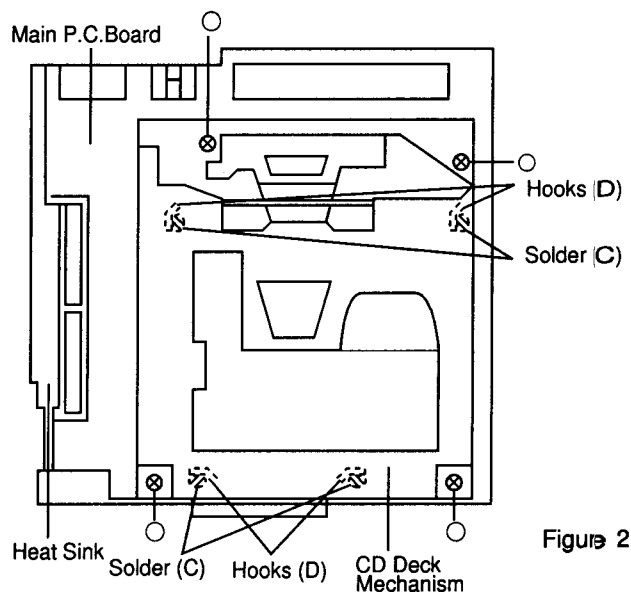

Figure 2
- (1) After removal of the Front Escutcheon, remove four screws marked "○" as shown in Figure 2.
- (2) Disconnect one connector from the Main P.C.Board.
- (3) Remove the solder (C) and four Hooks (D) as shown in Figure 2.